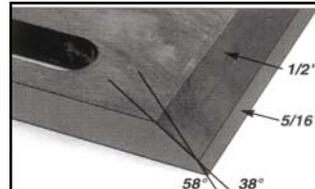

Figure 1B: Stationary knife angles (38 & 58 degrees )
6. Inspect stationary knife for wear and or damage. Stationary knife can be reversed or sharpened if necessary. See Figure 1B below for stationary knife angle sharpening specifications.